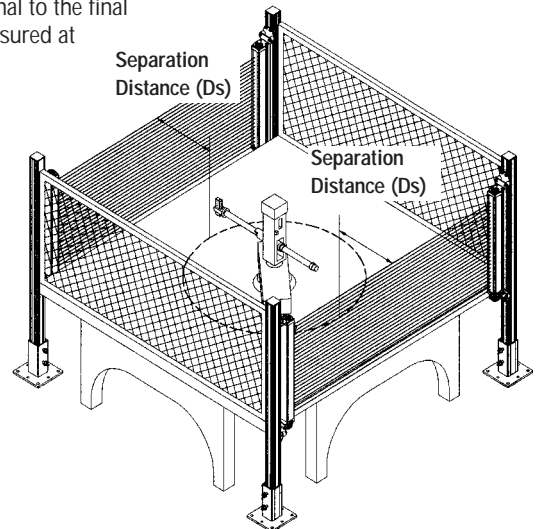

Figure 31. Calculation of D_s
- 2) Verify that the minimum separation distance from the closest danger point of the guarded machine to the defined area is not less than the calculated distance (see figure 31, below).